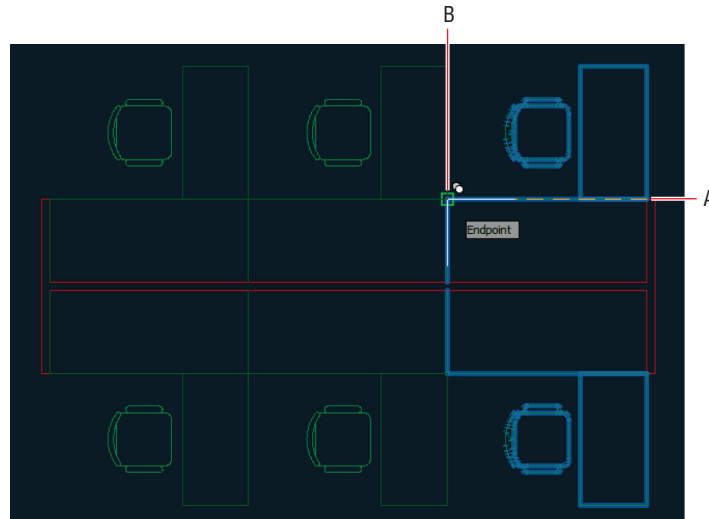

FIGURE 4.12 Copying multiple items
8. Press the spacebar to repeat the previous command, select both desks and chairs with crossing windows (but not the low partition between them), and press Enter. Select point A in Figure 4.12 as the base point. Type A and press Enter. The command prompt reads as follows:
9. Type 3, press Enter, and then click point B in Figure 4.12 as the second point. Press Esc to end the COPY command.